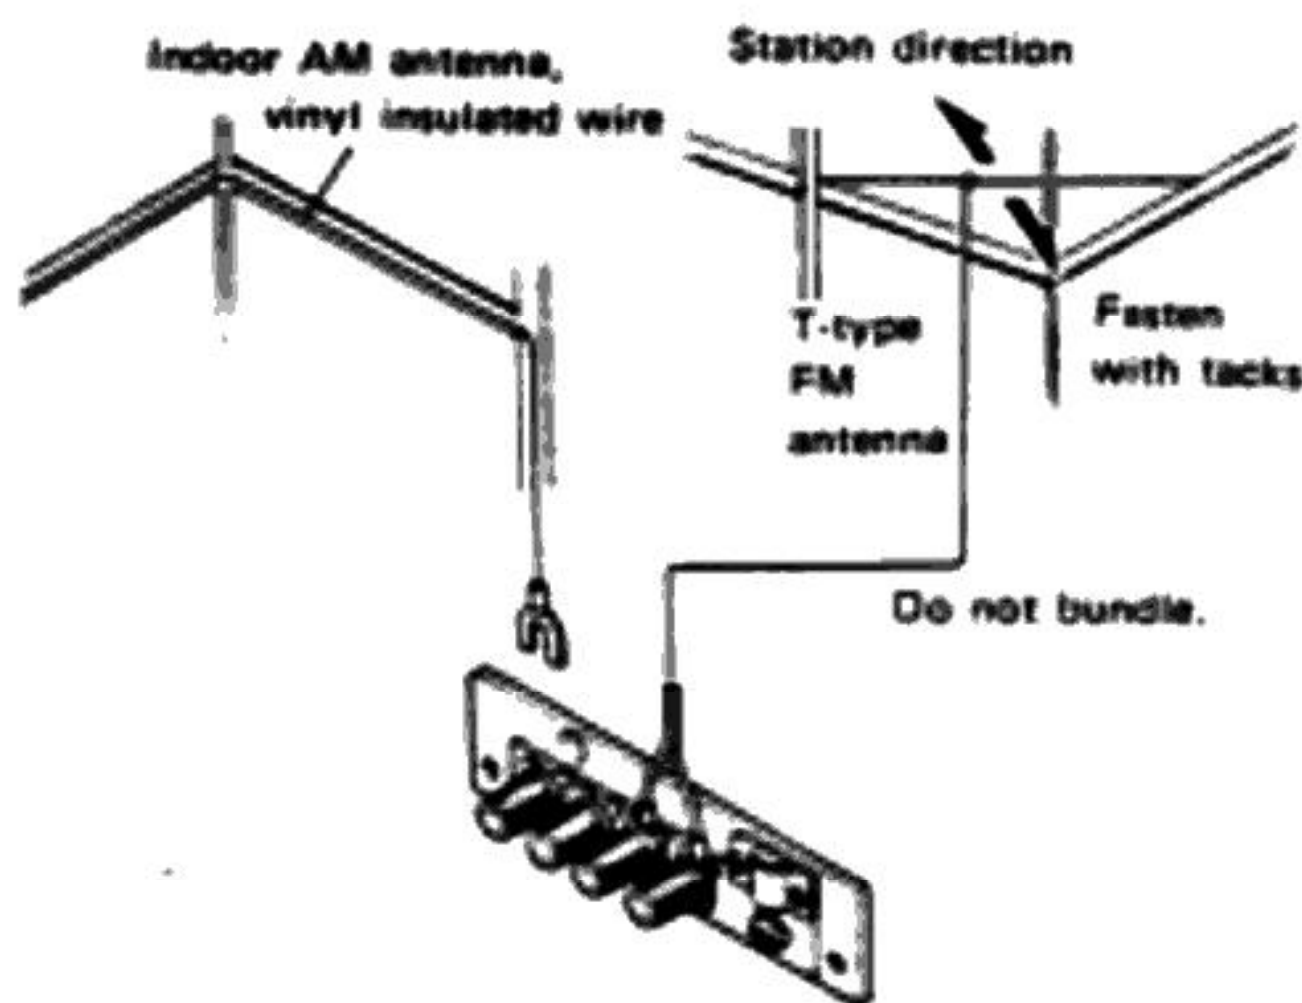

Fig. 8
- As shown in Fig. 8, connect the T-type antenna to the 300Ω antenna terminals. Spread the 2 arms of the antenna horizontally and while listening to an FM station, position them for best reception. The antenna can then be taped to a wall or ceiling.
If reception is difficult with the bar antenna, an indoor AM antenna can be erected with vinyl insulated wire (5m to 10m) as shown in Fig. 8.